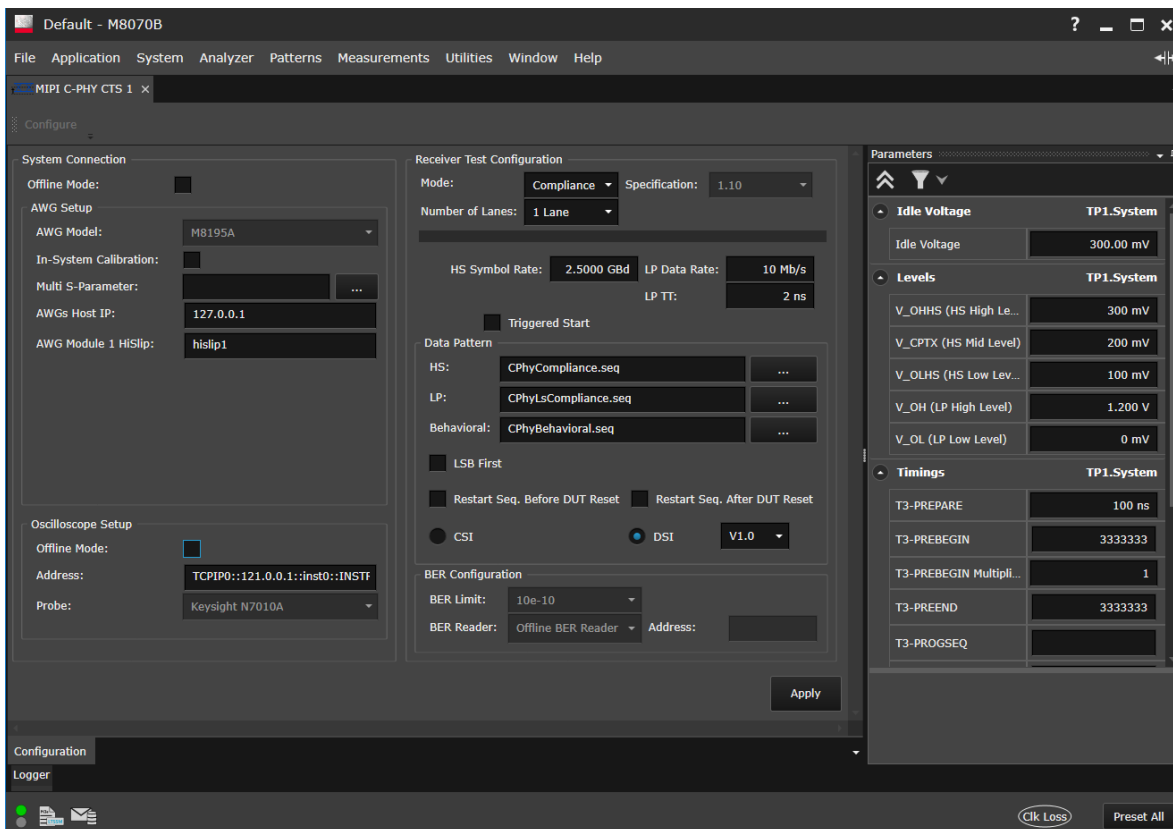

Figure 2 MIPI C-PHY CTS Configuration Window
- 4 The **MIPI C-PHY CTS** plug-in interface appears as shown in Figure 2.